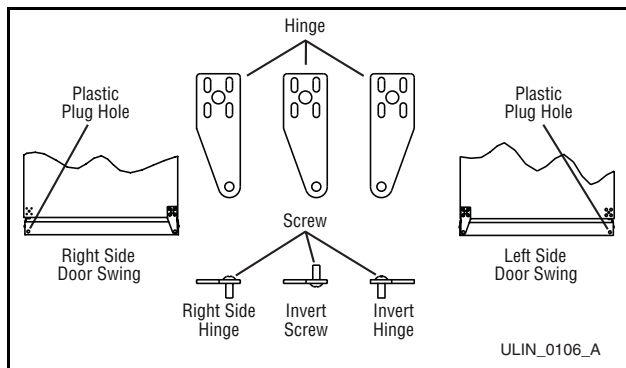

Figure 15
5. Remove pivot screw from top hinge, invert screw and reinstall pivot screw in top hinge (**Figure 15**). Do not install hinge on cabinet at this time.
7. Remove pivot screw from bottom hinge, invert screw and reinstall pivot screw in hinge (**Figure 15**).